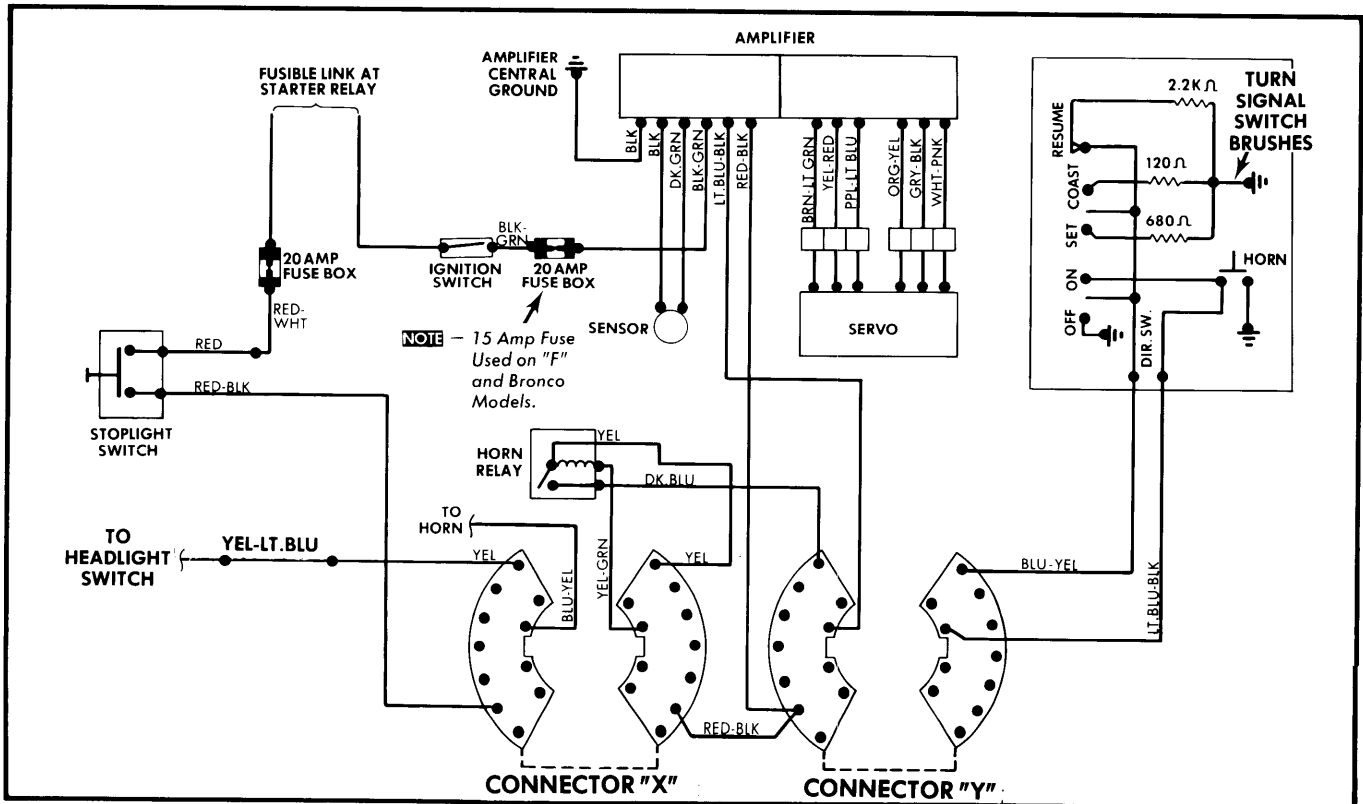

Fig. 2 Wiring Diagram of Ford Automatic Speed Control System ("E" Model Shown)
1) Locate yellow wire ("E" models) or yellow/light blue dot wire ("F" and Bronco models) at connector "X" and check for battery voltage on pin side of connector. See Fig. 2.